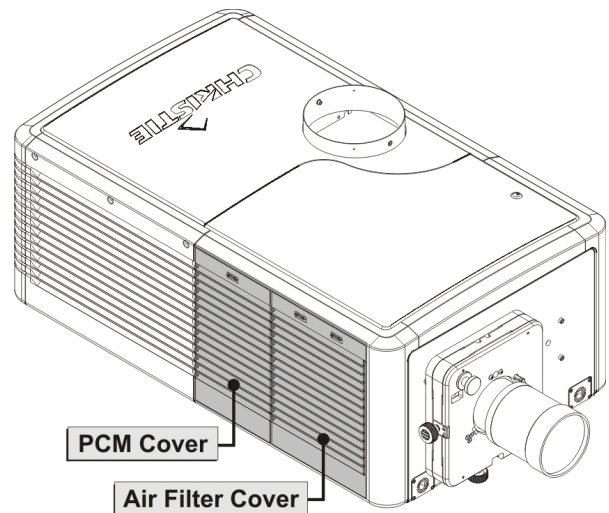

Figure 11 Remove PCM and Air Filter Covers
3. Remove the PCM cover by pushing on the tab at the top of the cover. Tilt the cover slightly then lift enough to clear tabs at the bottom and remove (**Figure 11**).
4. Remove the air filter cover by releasing the 2 tabs on the air filter cover, lift and remove (**Figure 11**).